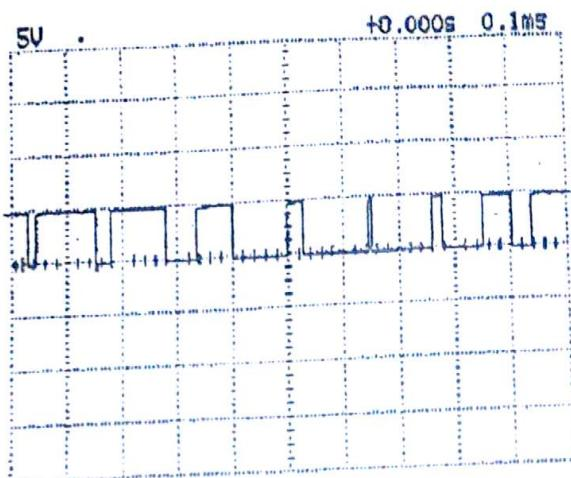

Figure 5-8. TP3's wave form
- (9) Remove CH-1, 2 input probe of oscilloscope connected to TP1 and J1 terminal of PCM I module and connect J1 terminal and J2 terminal.
- (10) Check whether wave form of oscilloscope as figure 5-8 appears on the screen or not, when input probe of oscilloscope CH-1 would be connected to TP3 of PCM I module. At that time, set TIME/DIV of oscilloscope to 0.1ms.